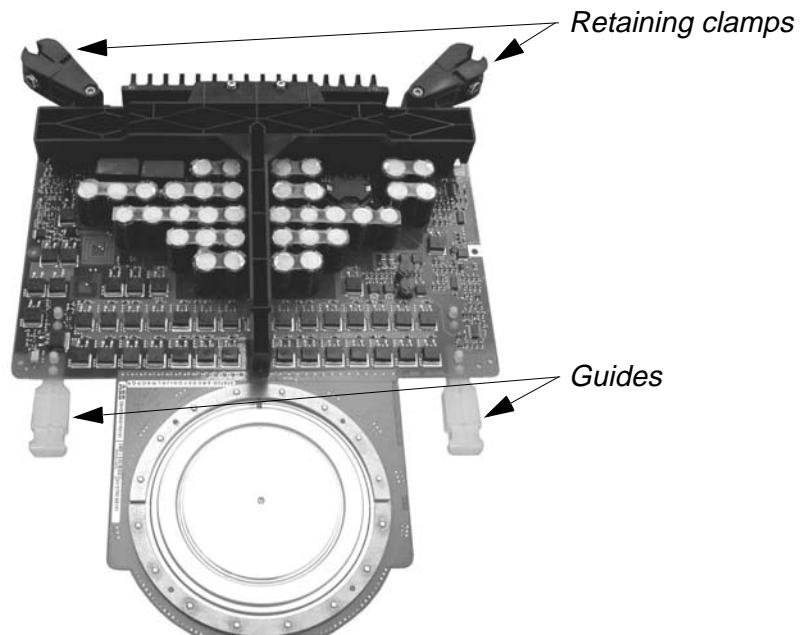

Figure 10-6 IGCT
- 6 In case the new IGCT is not fitted with retaining clamps and guides (see Figure 10-6) remove these parts from the faulty IGCT and mount them on the new IGCT.